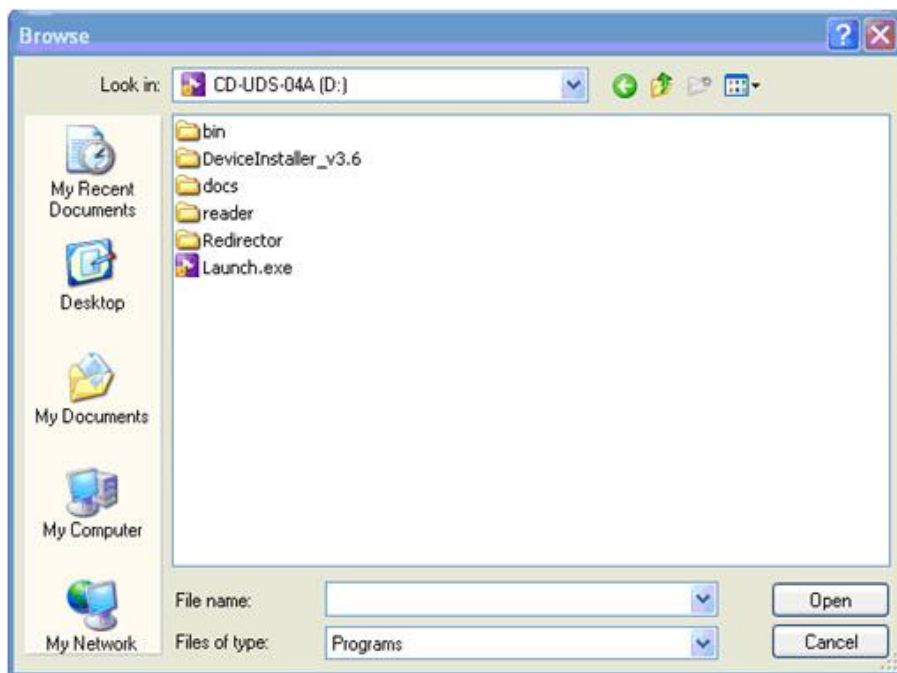

Fig. 3
2. Click Browse and select the CD-ROM drive. The Browse screen should look like Fig. 3 below.